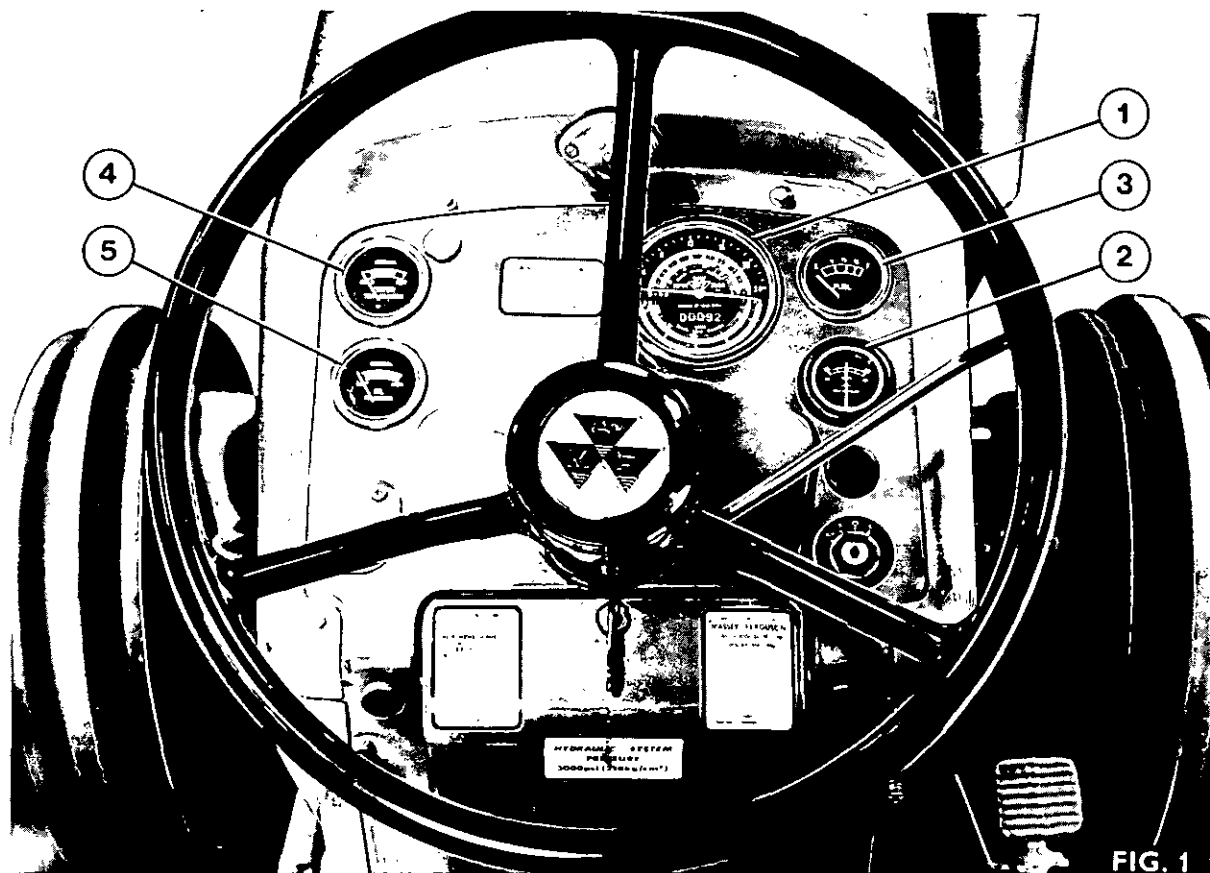

FIG. 1
**GENERAL****INSTRUMENT PANEL****Tractormeter (1, Fig. 1 and Fig. 2a and 2b)**
**INSTRUMENTS AND INSTRUMENT PANEL****Ammeter (2, Fig. 1)**
**Fuel Gauge (3, Fig. 1)**
**Temperature Gauge (4, Fig. 1)**
**Oil Pressure Gauge (5, Fig. 1)**